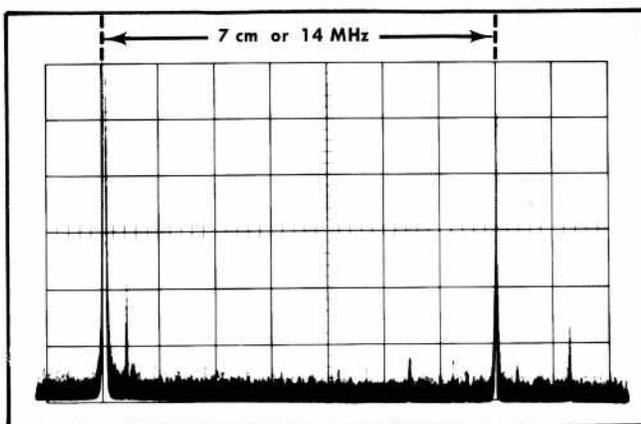

Fig. 2-19. Frequency difference measurement between two signals. DISPERSION RANGE setting = MHz/cm
3. Measure the distance in centimeters between the two signals (see Fig. 2-19).